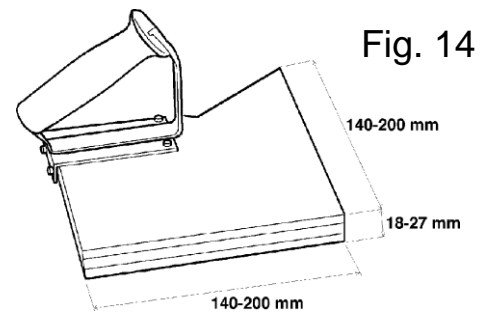
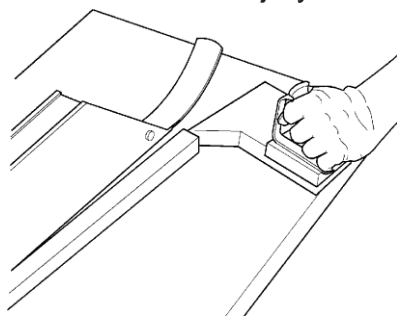

Fig. 14
Fig. 15
- **The side pusher** (Fig.14, Fig.15), allows you to guide the pieces tight against the square. In addition, the tip of the side pusher should be used to remove the small scraps left near the blade.